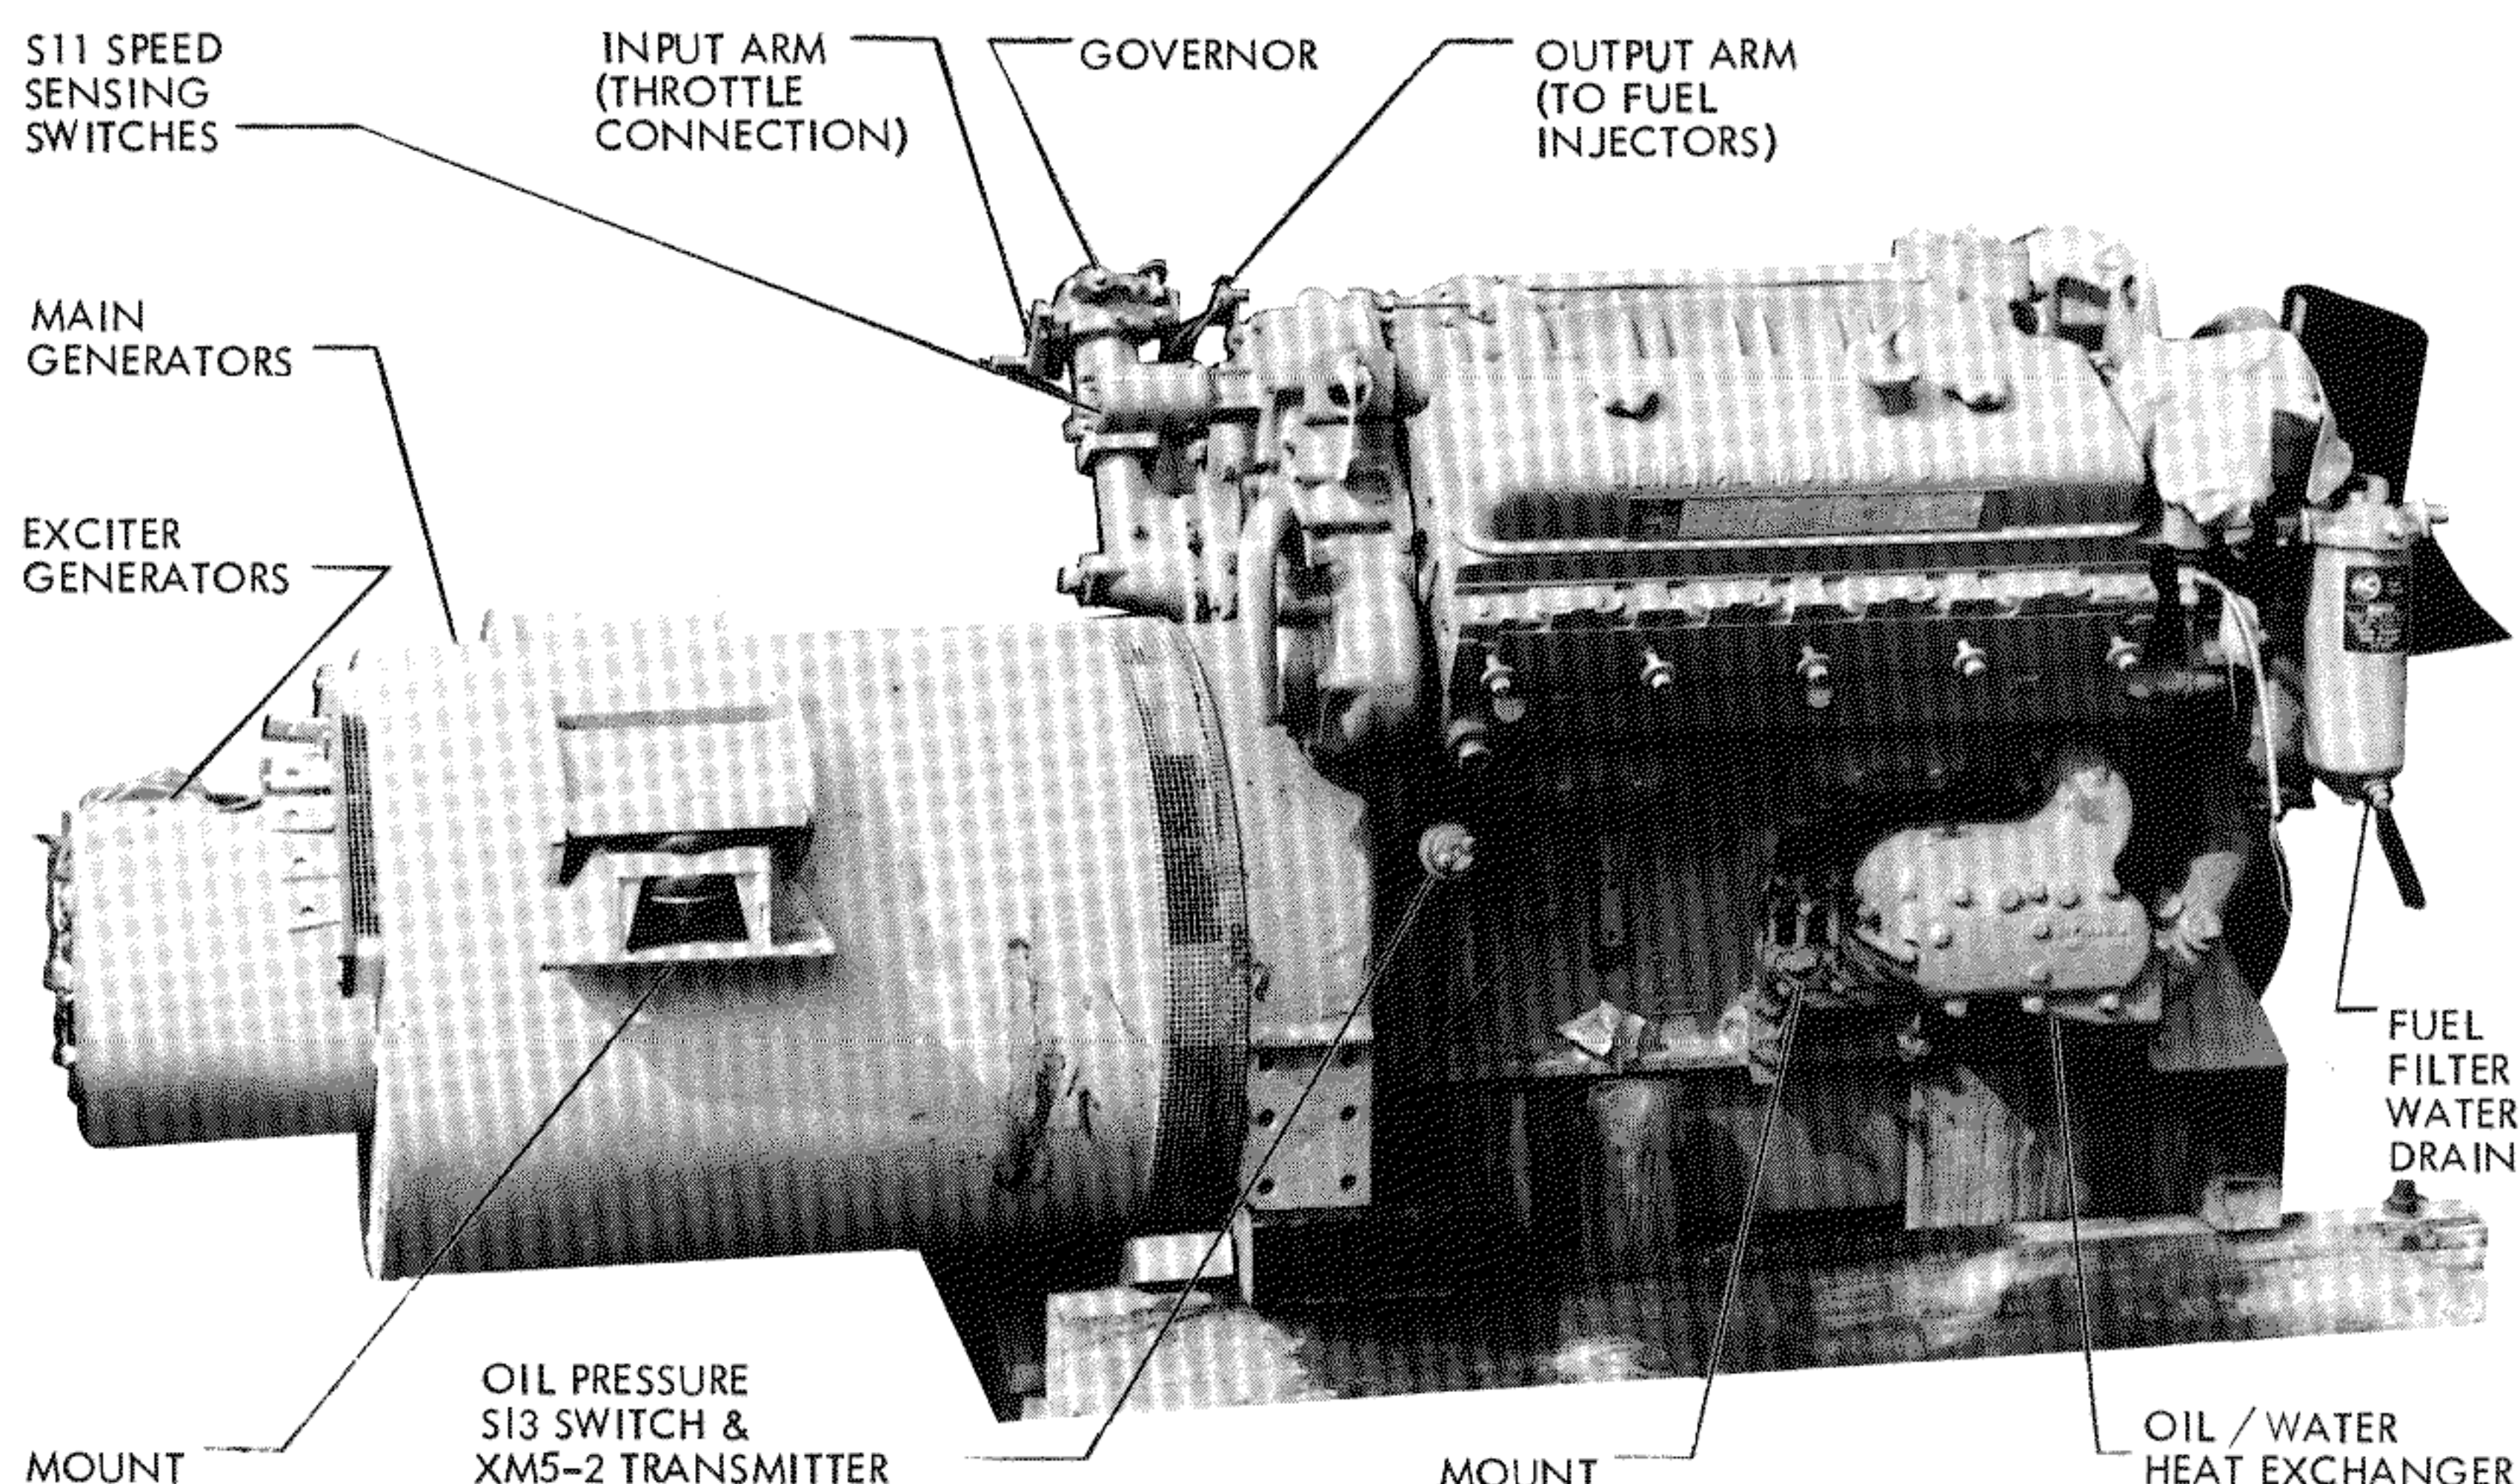

Figure 3 Engine/Generators Assembly Before Installation
The engine's liquid cooling system is thermostatically controlled, and it is used also to cool the engine oil by means of the oil-to-water heat exchanger shown in Figure 3. As the thermostat valve passes progressively more water to be cooled in the radiators, the changing balance in water pressure on either side of the thermostat valve (at the front of the right cylinder head) is used as hydraulic pressure to open the front radiator louvers, promoting the cooling air flow. There is a manual control lever which may be used to open the louvers prematurely, but the manual control will not override the automatic control to close the louvers.
The fuel filter which can be seen in Figure 3, and the fuel strainer, which is on the opposite side of the engine, both serve as water traps. The petcocks on the bottom of their cases should be opened daily — preferably before the first start is made — to remove water accumulations.
**THE ELECTRICAL POWER GENERATING UNIT** is designed specifically for use with the GM diesel engine. It is actually four generators in a single housing, mounted on a single shaft. The large housing shown in Figure 3 contains a main generator for ac and a main generator for dc power supply. The small extension off the main housing contains an exciter generator for each of the main generators. The generator shaft is coupled directly to the engine fly wheel, so the complications and power losses generally associated with gear boxes and clutches are completely eliminated.